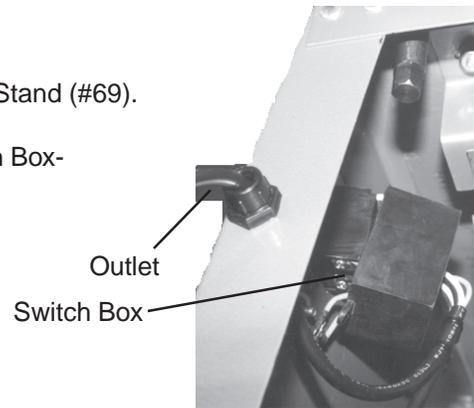

Figure 9
- Step 2) Insert the wires through the hole in the Switch Box-see Figure 9.